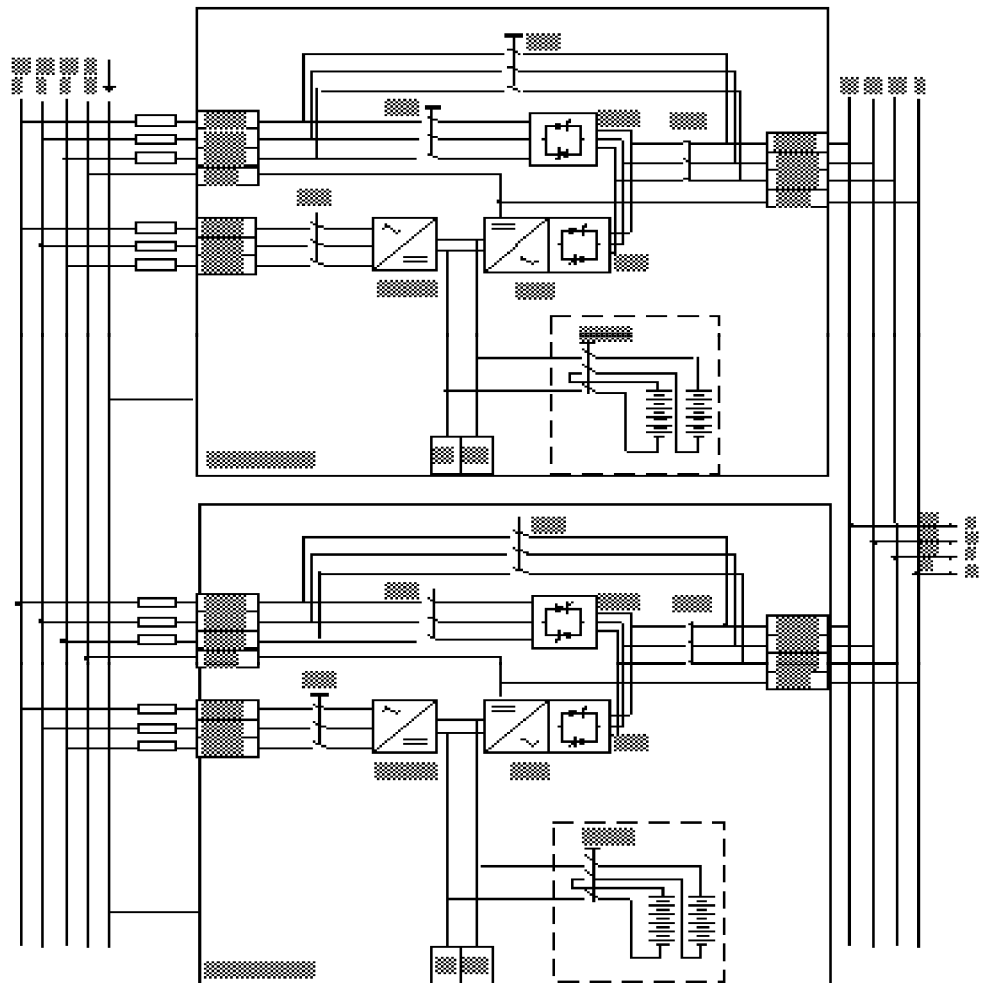
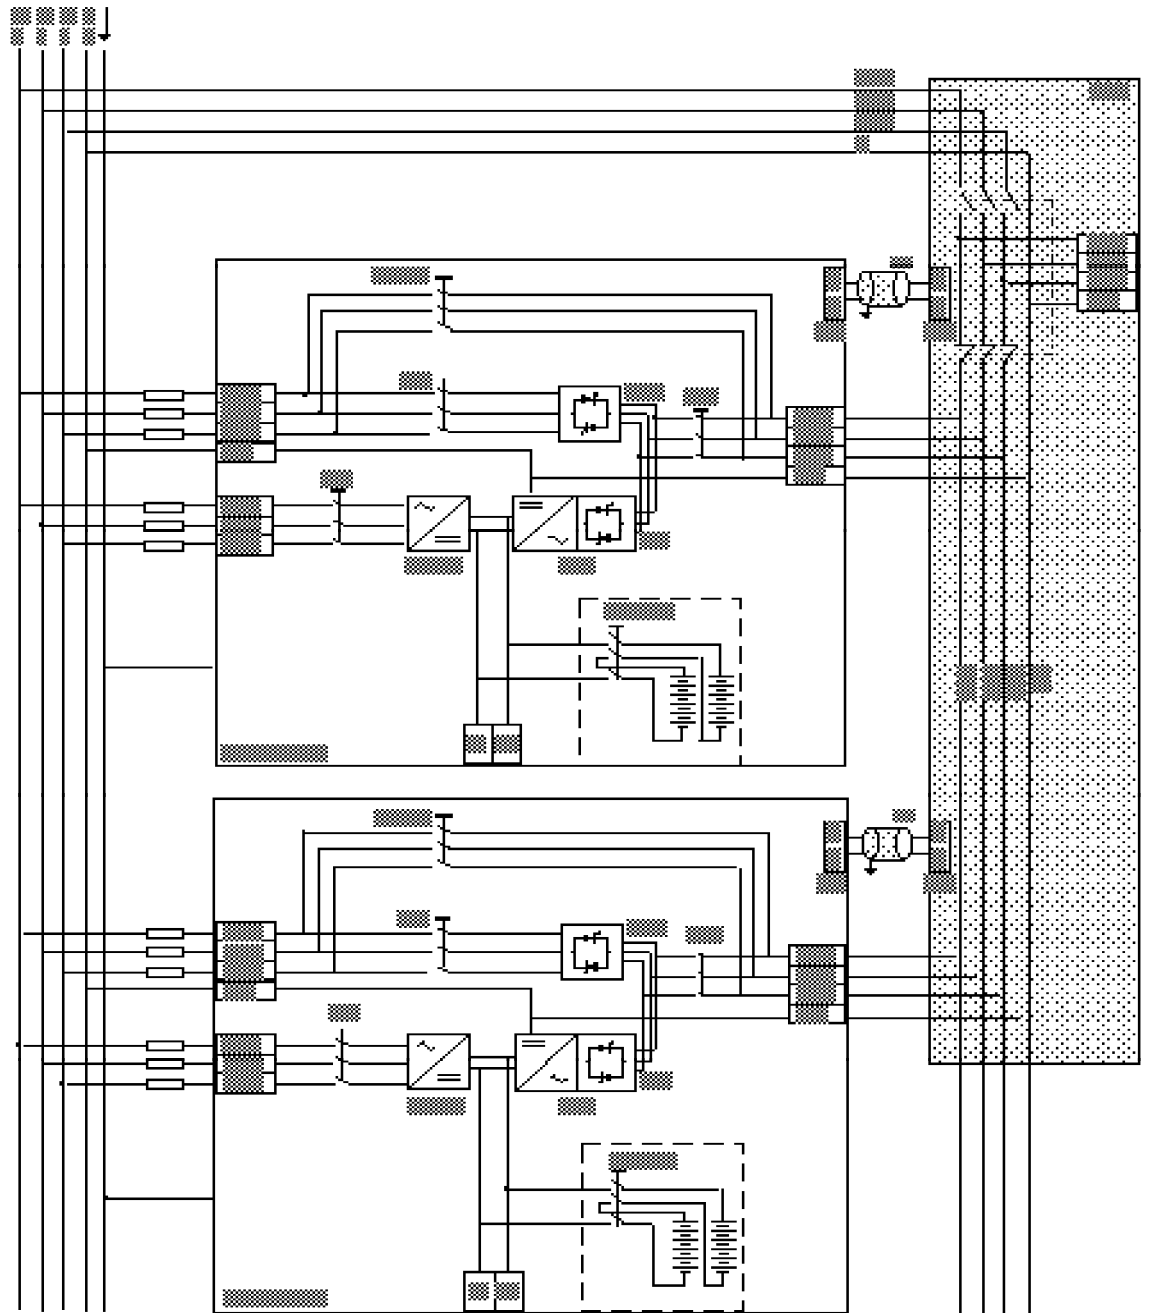

FIG. 1.10.1 Interconnection of hot-standby units with integrated maintenance bypasses and separate bypass terminals.
FIG. 1.10.2 Interconnection of hot-standby units with external maintenance bypass and separate bypass terminals.
For hot-standby systems the units must be connected together as shown in the FIG. 1.10.1 or FIG. 1.10.2
**Note:** The installation for each unit must be performed in accordance to the installation of single units as described in the previous sections. Additionally to this, the outputs must be connected in parallel as shown in FIG. 1.10.1 or in FIG.1.10.2